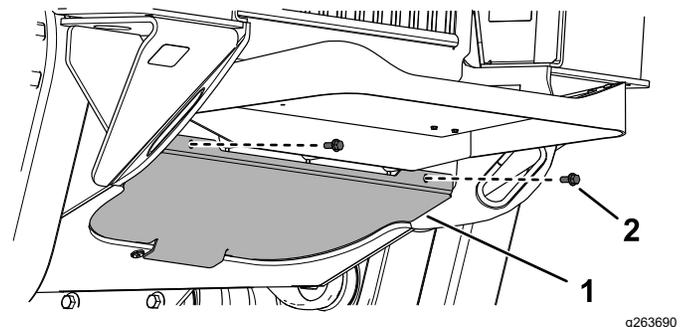

Figure 44
1. Remove the 2 bolts securing the bottom plate (Figure 44).